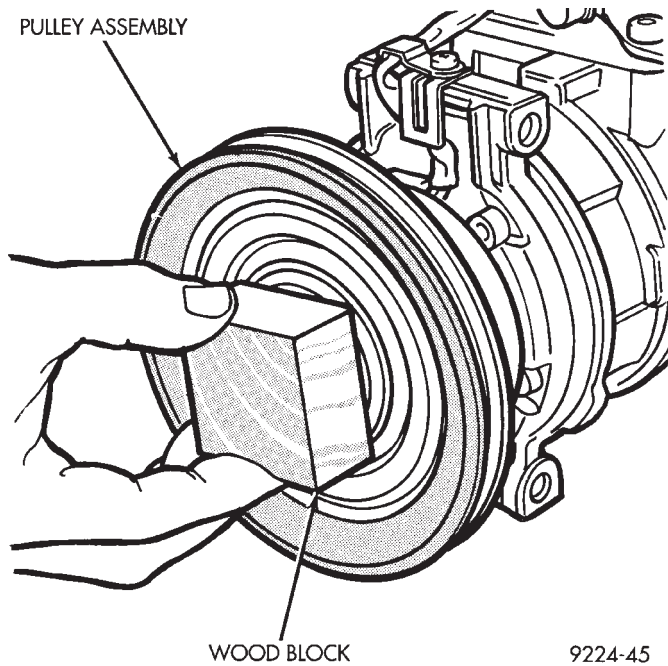

Fig. 6 Installing Pulley Assembly
- (3) Install pulley assembly to compressor. If necessary, tap gently with a block of wood on the friction surface (Fig. 6).